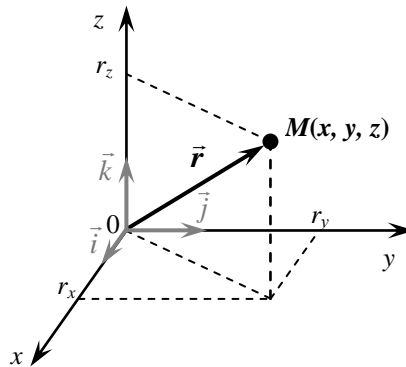

Fig. 1.5
**Position vector**  $\vec{r}$  of a point is a vector that starts at the origin and ends at the given point (Fig. 1.5).